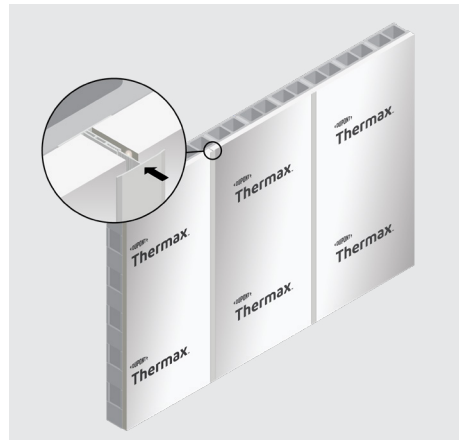

Figure 9
6. Apply a continuous bead of a chemically-compatible construction-grade caulk/sealant along the vertical edges of the insulation boards, then position and press a PVC top "T" section in the PVC base strip until it snaps into place (Figure 9).